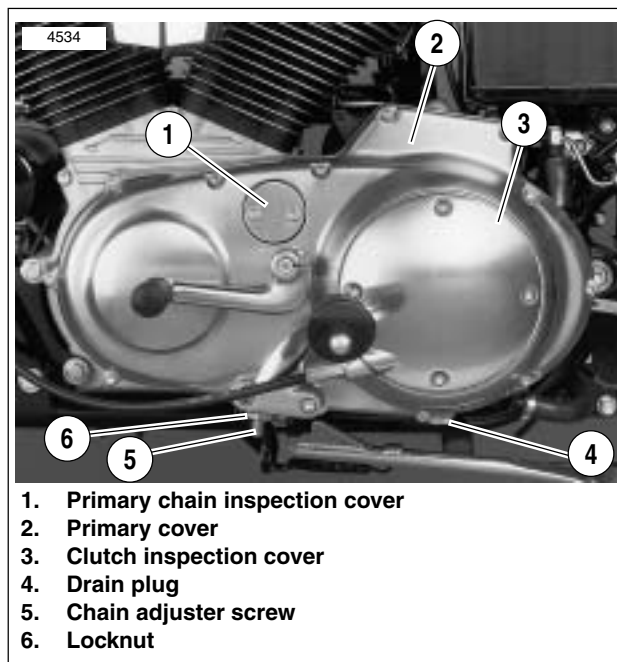
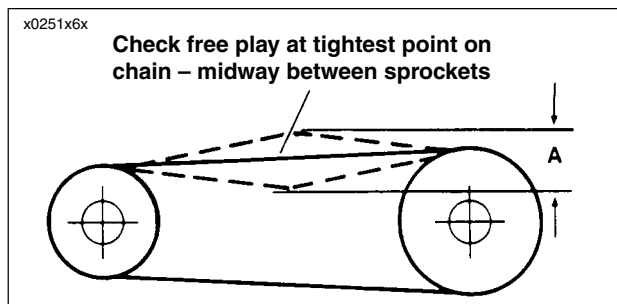

Figure 1-18. Primary Cover
Figure 1-19. Primary Chain Vertical Free Play
1. See Figure 1-18. Check the primary chain for correct tension by measuring its vertical free play through the primary chain inspection cover (1) opening located near the top of the primary cover (2).
See Figure 1-19. A properly adjusted primary chain should have the specified vertical free play in its upper strand.
Always measure the vertical free play with the sprockets rotated to several different positions. The tightest measurement observed must be within specifications shown in Figure 1-19.
See Figure 1-18. The primary chain can be adjusted without removing the primary cover (2). Proceed as follows:
1. Remove the two hex socket screws which secure primary chain inspection cover (1).
3. Loosen locknut (6). Turn chain adjuster screw (5) clockwise (inward) to reduce free play or counterclockwise (outward) to increase free play. Vertical free play must fall within the limits specified in Figure 1-19.
If vertical free play cannot be set within the limits specified in Figure 1-19, then primary chain and/or chain adjuster are worn beyond adjustment limits. Replace parts as necessary.
4. See Figure 1-18. When tension is set correctly, tighten locknut (6) to 20-25 ft-lbs (27-34 Nm).
5. Install primary chain inspection cover (1). Tighten hex socket screws to 40-60 in-lbs (4.5-6.8 Nm).